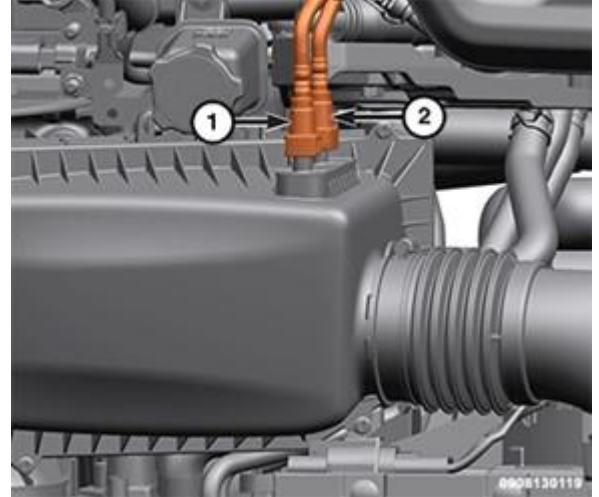

Figure 12 – Air Cleaner Cover
23. Disconnect the vacuum boost hose quick coupling (1) from the air cleaner body cover (Figure 12).
24. Disconnect the fuel vapor purge hose quick coupling (2) from the air cleaner body cover (Figure 12).